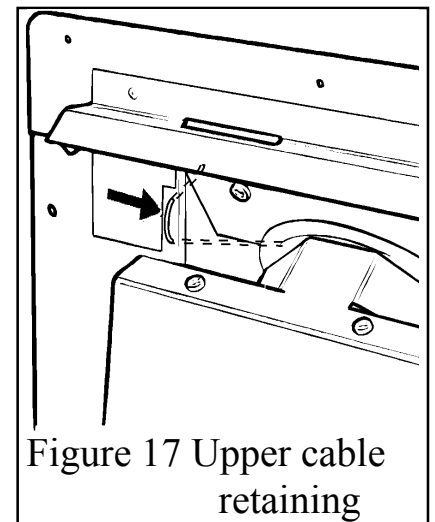

Figure 17 Upper cable retaining
4. The convection box has two holes at each side of the convected air opening. Insert one end of each cable (one cable each side) from the back through the lower of the two holes and return the end through the upper of the holes. See figure 17. Give the cables a pull so that they grip against the convection box flanges.